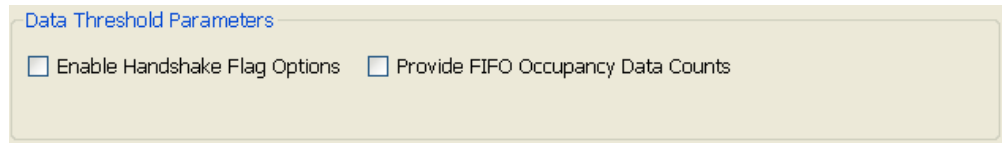

Figure 10-18: AXI4-Stream Interface FIFO: Page 4 - FIFO Occupancy Option
- Data Count/Write Data Count/Read Data Count options of Native Interface FIFOs can be set through the Provide FIFO Occupancy Data Counts option on Page 4 of the AXI4-Stream FIFO GUI, as shown in Figure 10-18.